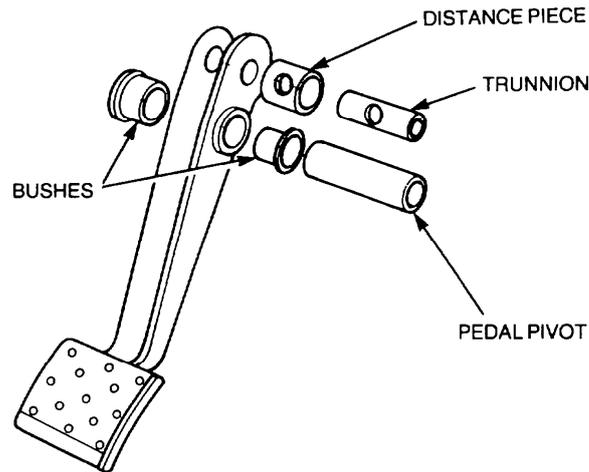

Figure 52 Clutch Pedal Exploded View
- n. Remove the trunnion, distance piece and bushes from the pedal (Figure 52). Discard the bushes.